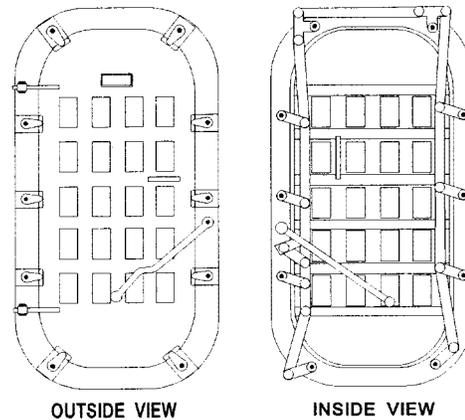

Figure 1-2. Quick-Acting Watertight Door
- b. Quick-Acting Watertight Doors. (See figure 1-2.) These doors are used for routine passage and access/egress into the superstructure from the weather decks, main passageways, or manned spaces such as the Combat Information Center (CIC), Radio Central, Machinery Control Central, or Damage Control Central. These doors are usually placed in high traffic areas.